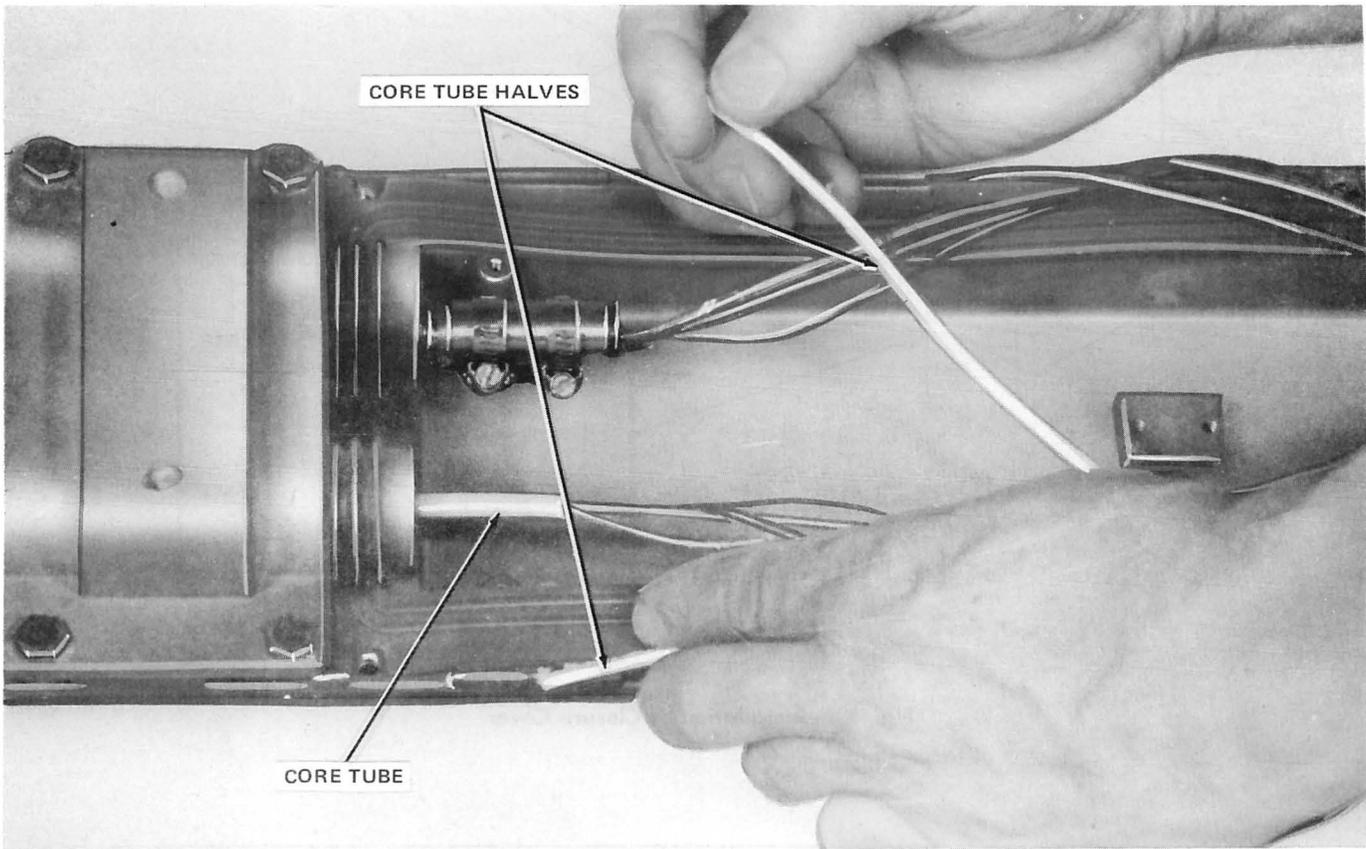

Fig. 41 — Core Tube Removal
6.03 Carefully separate the inner core tube at the score mark and peel the two halves toward the end of the cable, as shown in Fig. 41.